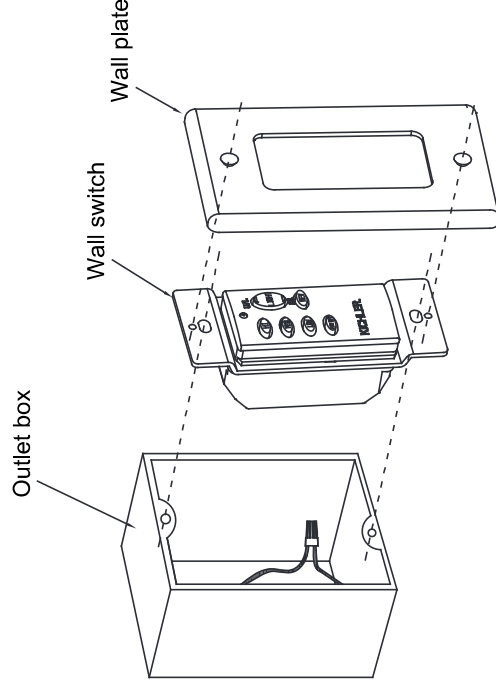

Fig. 18
Step 2. Use the screws provided to secure the wall transmitter to the outlet box (**Fig. 18**).